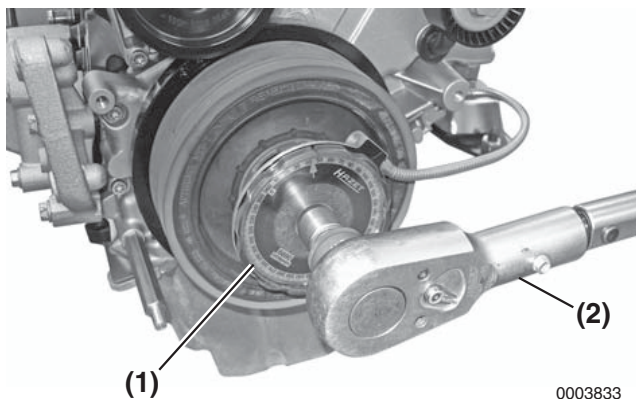

Figure 5-83
- Install special tool OEM No. 11 6 310 (Figure 5-83, (1)) onto the vibration damper.
- Tighten bolt to specification with an angled torque wrench (Figure 5-83, (2)).